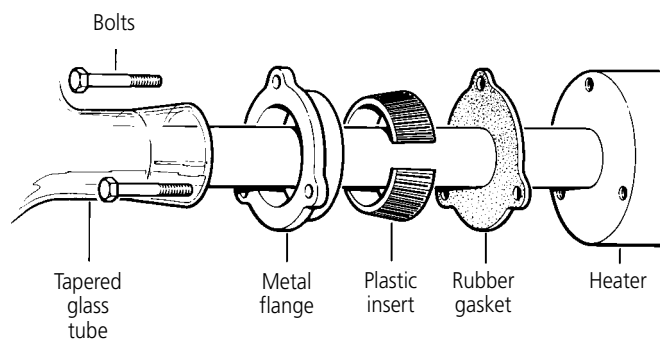

Figure 2 Flange assembly
3. Take the boiler W4000/B, the heater and gasket kit W4000/GK. Assemble the heater into the boiler as shown in **Figure 2**.